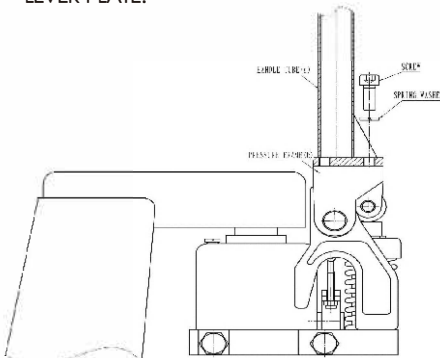
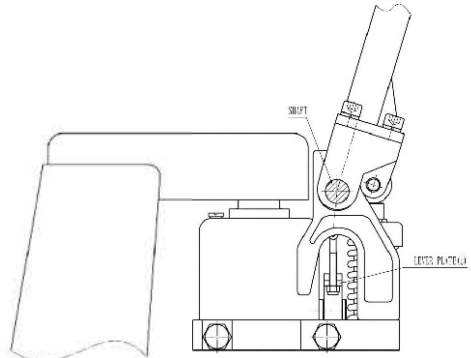

Fig. 1
Fig. 2
1. Place the base of the HANDLE TUBE (Fig. 1) on the PRESSURE FRAME (Fig. 1). Align the holes (Fig. 1) at the base of the HANDLE TUBE with the holes in the PRESSURE FRAME. The chain should drop through the middle hole of SHAFT (Fig. 2).
2. Using a screwdriver, pry the LEVER PLATE (Fig. 2) up and slip the bolt head under the notch in the LEVER PLATE.
3. Secure the HANDLE to the pallet jack with the three SPRING WASHERS and SCREWS (Fig. 1). It is a good idea to remove any air bubbles that might have accumulated in the hydraulic system during shipping.